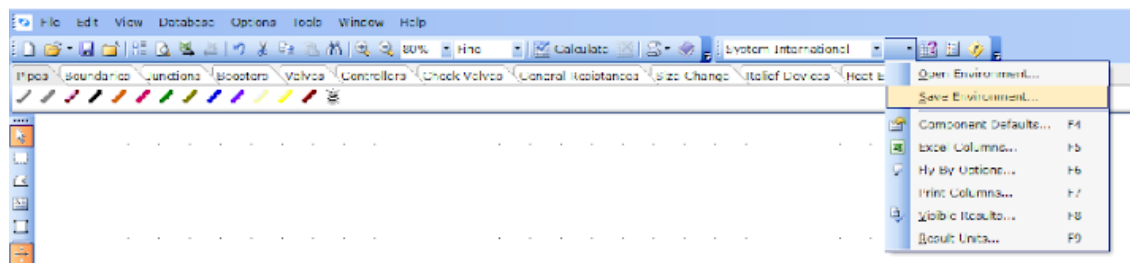

Figure 35: Save Environment Option.
33. Now that we have set the results unit, let us save the custom result unit set. Click the drop-down button at the right of the default unit set and select the Save Environment option (Figure 35).